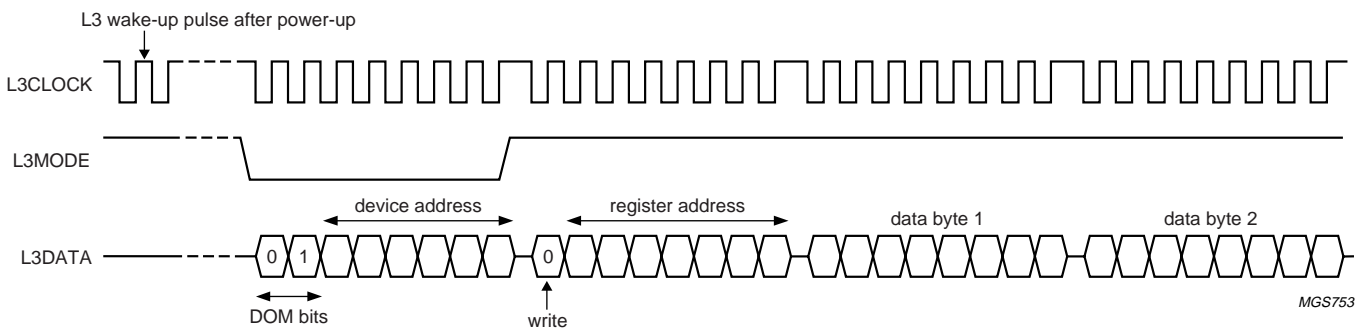

Fig.6 Data write mode (for L3 version 2).
The address mode is used to select a device for a subsequent data transfer. The address mode is characterized by L3MODE being LOW and a burst of 8 pulses on L3CLOCK, accompanied by 8 bits (see Fig.6).
Remark: when the device is powered up, at least one L3CLOCK pulse must be given to the L3 interface to wake-up the interface before starting sending to the device (see Fig.6). This is only needed once after the device is powered up.
1. Addressing for write data: bit 0 is logic 0 indicating a write action to the destination register, followed by bits 1 to 7 indicating the register address (see Fig.6)
The data write mode is explained in the signal diagram of Fig.6. For writing data to a device, 4 bytes must be sent (see Table 6):